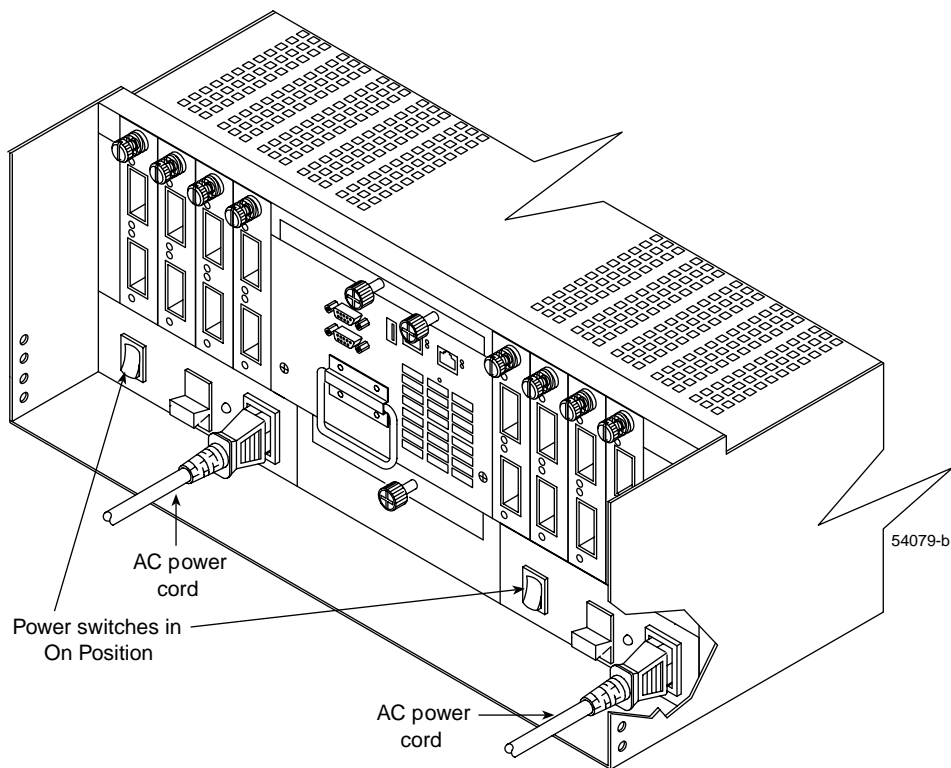

Figure 3-2 Turning the Power On
2. Turn on both power switches on the rear of the controller enclosure (see Figure 3-2). You must turn on both switches to take advantage of the redundant power supplies. Then, go to “Checking the Controller Enclosure Indicator Lights” on page 33.
4. Once the air temperature is below the upper operating temperature of 45 °C (113 °F), turn on both power switches on the rear of the controller enclosure (see Figure 3-2). You must turn on both switches to take advantage of the redundant power supplies. Then proceed to “Checking the Controller Enclosure Indicator Lights” on page 33.
2. Turn on the power (see Figure 3-2 on page 28).
- c. Turn on both power switches on the rear of the controller enclosure (see Figure 3-2). You must turn on both switches to take advantage of the redundant power supplies. Then, proceed to “Checking the Controller Enclosure Indicator Lights” on page 33.
3. Turn off the power switches on the rear of the controller enclosure (see Figure 3-2).